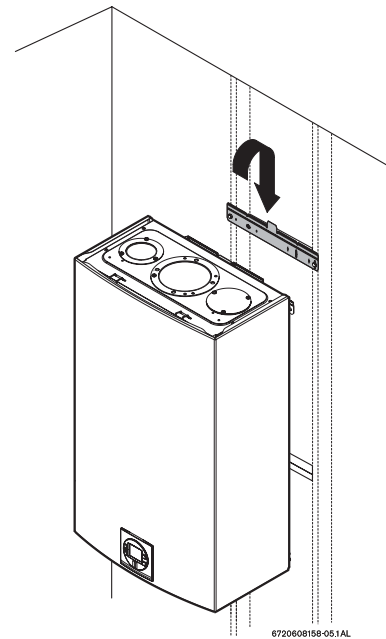

Fig. 10 Mounting the heater
- Hang the appliance on the bracket, see Fig. 10, page 9.